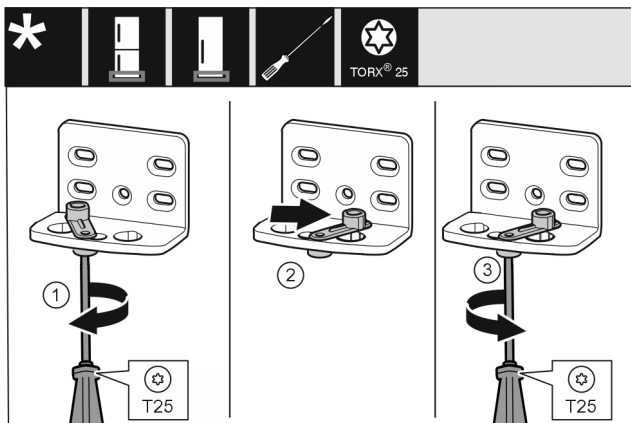

Fig. 26
- Use screwdriver to loosen the screw Fig. 26 (1).
- Lift the door closing aid Fig. 26 (2) and turn 90° clockwise in the hole.
- Tighten screw Fig. 26 (3) with screwdriver.